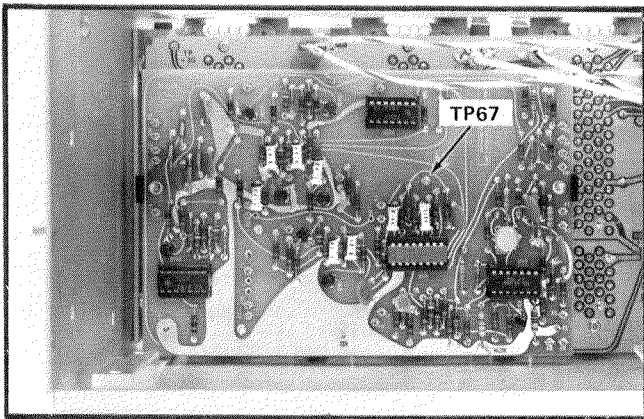

Fig. 3-4. Location of TP67 on Logic board (shown with power unit removed).
b. Connect the probe tip to TP67 (see Fig. 3-4).